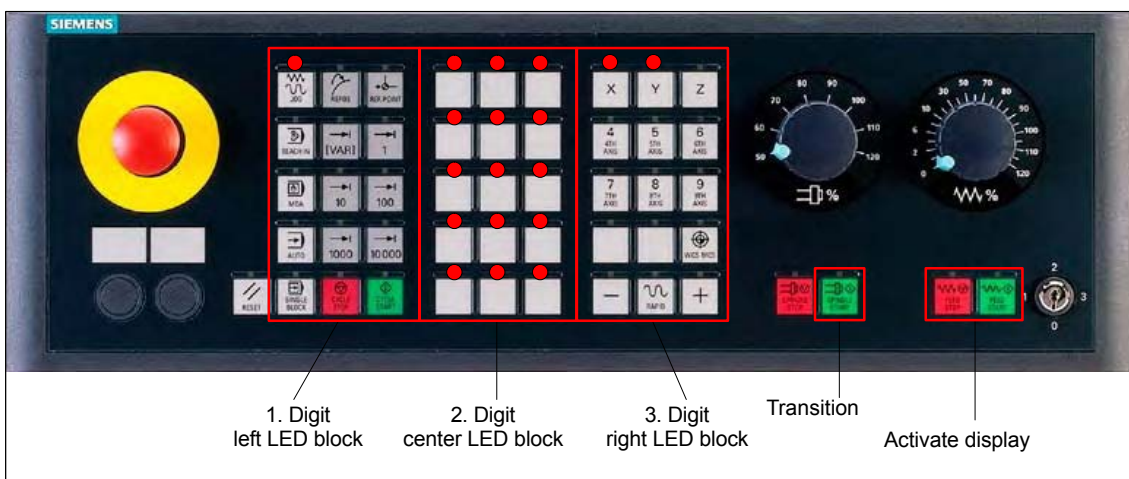

Fig. 7-6 Display of the 1st digit of the IP address: 192
1) Display of the digit by means of continuously illuminated LEDs on the individual LED blocks according to Fig. 7-6